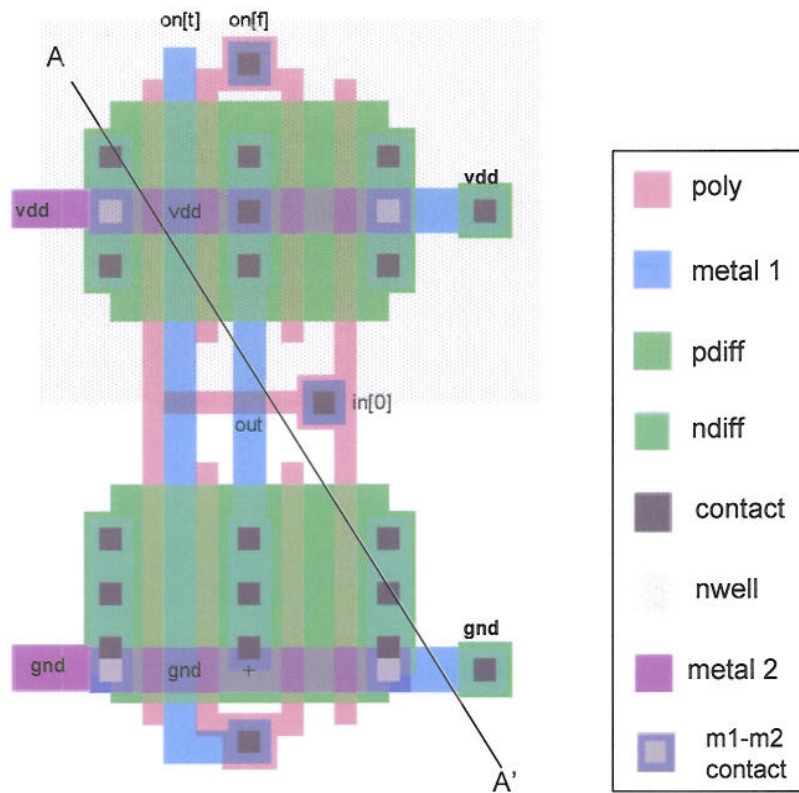

Figure 1.1 Layout of full-custom cell P for Question 1
1. a) *Figure 1.1* (see the colour supplementary sheet) shows the layout of an n-well CMOS circuit *P* with four terminals: *in[0]*, *on[t]*, *on[f]* and *out*. Extract and draw the transistor-level schematic diagram of this circuit. Note that *vdd* and *gnd* are routed on the metal 2 layer.
- d) For the layout shown in *Figure 1.1*, draw the vertical cross section along the line AA'. Label your diagram indicating the n-well region and the different types and levels of doping (e.g.  $p^+$ ,  $n^+$  etc).